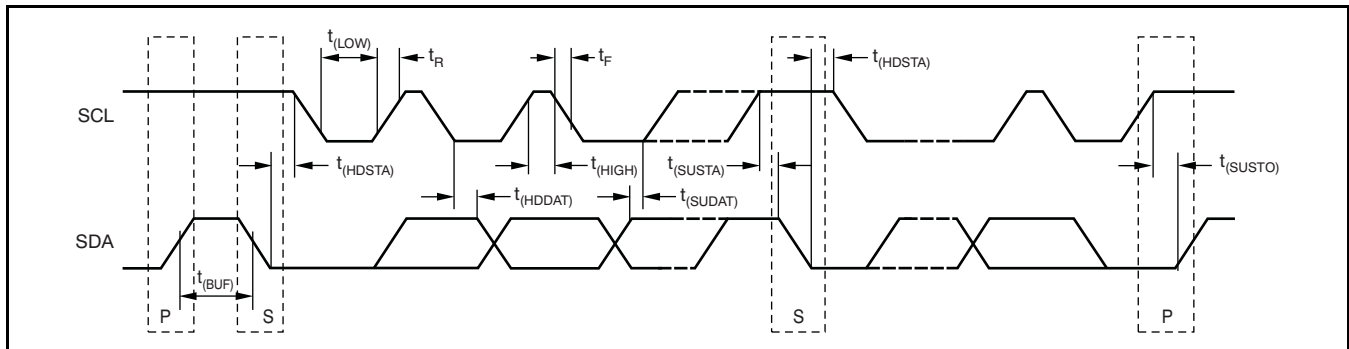

Figure 26. Two-Wire Timing Diagram
Figure 26 describes the timing operations on the TMP512/13. Parameters for Figure 26 are defined in Table 2. Bus definitions are:
**Start Data Transfer:** A change in the state of the SDA line, from high to low, while the SCL line is high, defines a START condition. Each data transfer initiates with a START condition. Denoted as S in Figure 26.
**Stop Data Transfer:** A change in the state of the SDA line from low to high while the SCL line is high defines a STOP condition. Each data transfer terminates with a repeated START or STOP condition. Denoted as P in Figure 26.
Table 2. Timing Characteristics for Figure 26